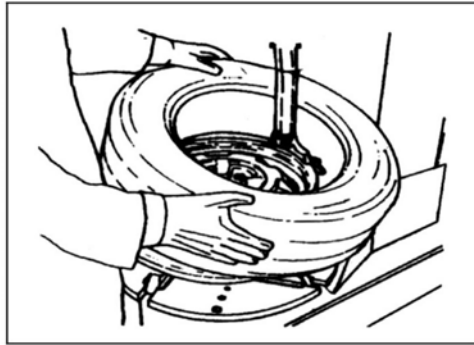

Fig 23
4.1.5 Take out the tube and then move up the lower lip to contact with the upper edge of the rim and repeat the step of 4.1.4. Detach another lip (fig23). Step the column tilt pedal(fig2-10) and the column tilt backwards and at this moment, you can take off the tire.